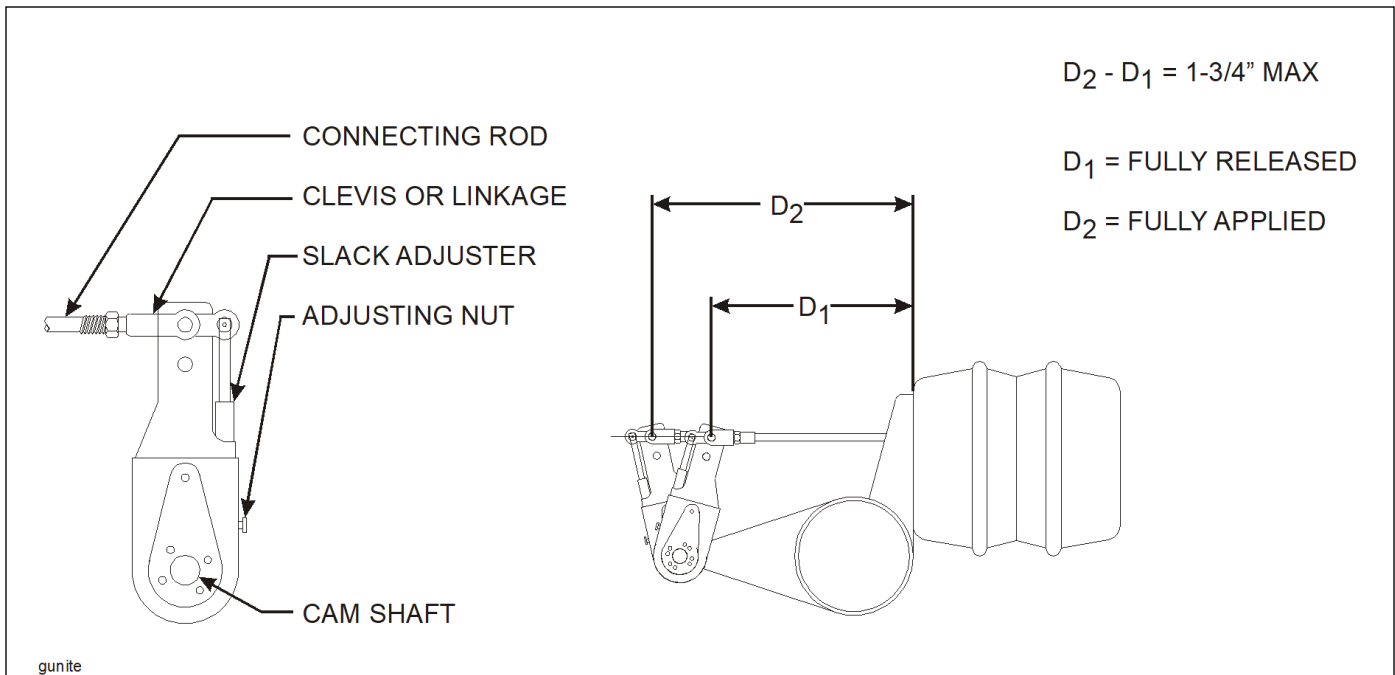

Figure 4-14: Checking Brake Adjustment
4. Remount the brake chamber on the axle brackets and reconnect the air service hoses and the slack adjuster connecting rod (See Figure 4-14.)
2. Measure the distance (D1) from the face of the brake air chamber to the center of the slack adjuster linkage pin (**See Figure 4-14.**)
7. Place a 9/16" box end or socket wrench on the slack adjuster adjusting nut (**See Figure 4-14**), and push in on the locking sleeve.
2. Measure the distance (D1) from the face of the brake air chamber to the center of the slack adjuster linkage pin (See Figure 4-14.)
7. Place a 9/16" box end or socket wrench on the slack adjuster adjusting nut (See Figure 4-14), and push in on the locking sleeve.